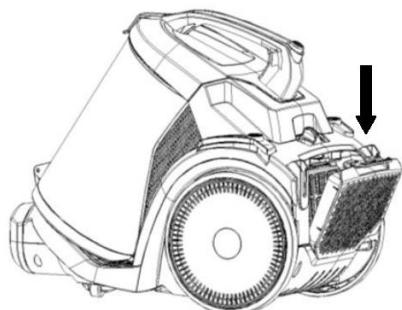

Fig.14
- 1) Fig.14 - press the outlet lock to open the outlet board.